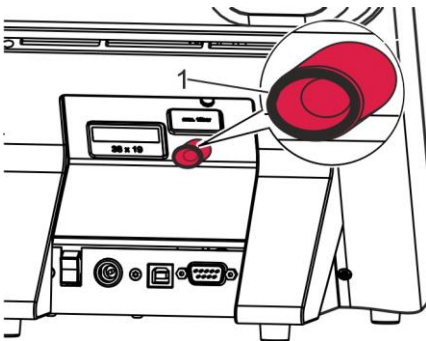

Fig. 34: Compressed air connection
3. To release the catch on the compressed air connection, push back the black ring (Fig. 34/1) on the compressed air connection and hold it back.